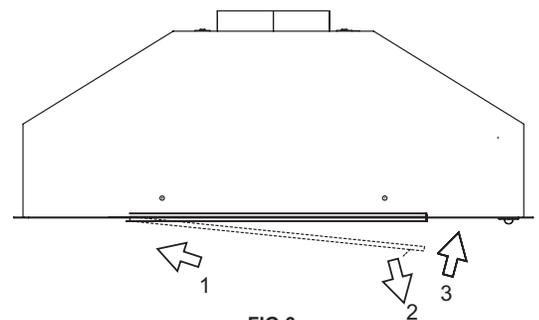

FIG 6
**Installing Decorative Mesh Filter, FIG 6:**